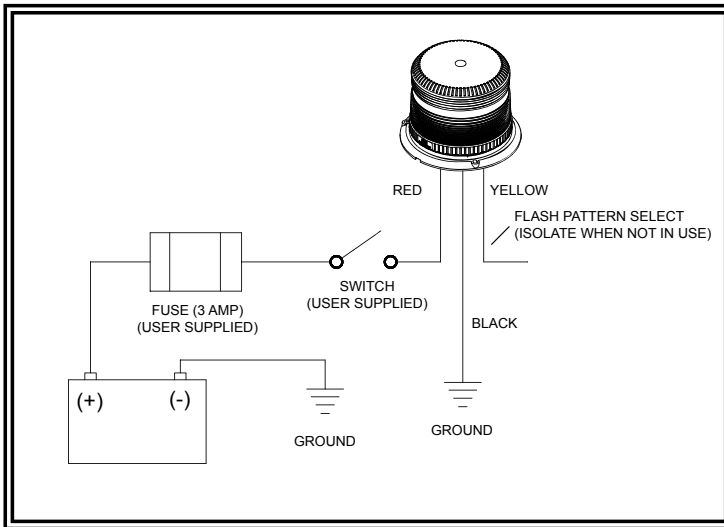

Figure 2
4. Connect the power wires as shown in the wiring section (see Figure 2).